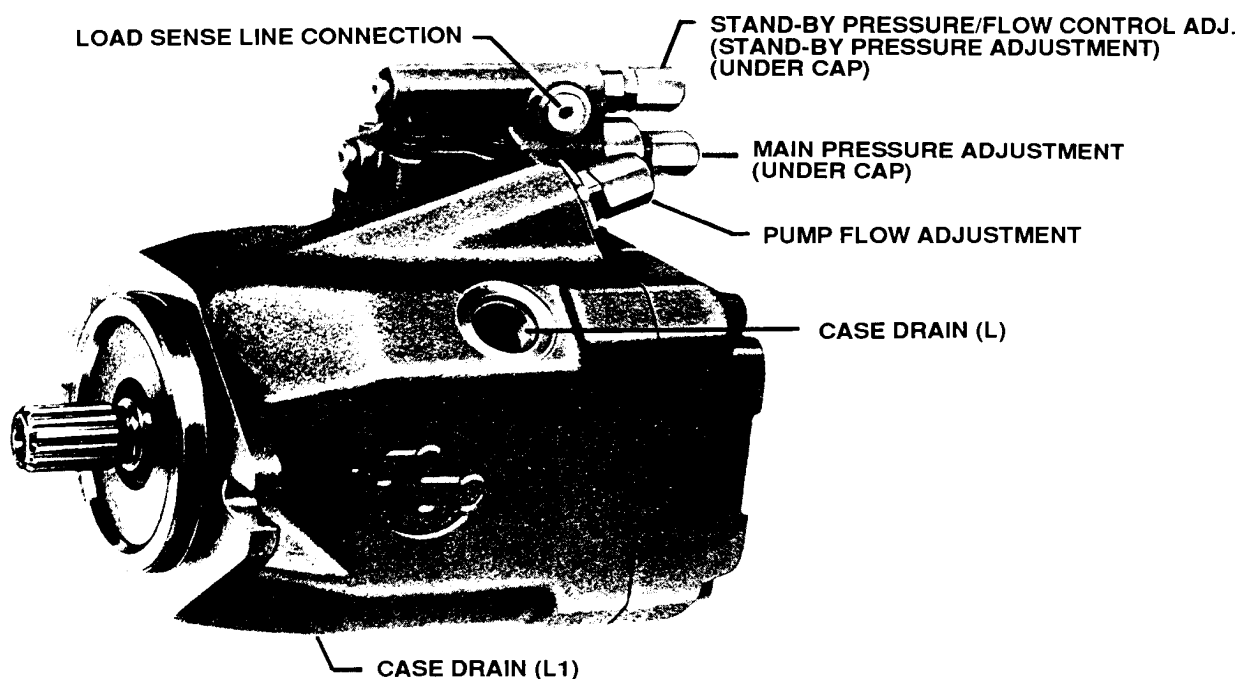

FIGURE 2. PORTS AND ADJUSTMENTS
A. Install pump on vehicle so that one of the case drain ports "L" or "L1" is on top. See Figure 2.
E. Connect the load sense line. See Figure 2.
A. Remove the cap over the main pressure adjustment. See Figure 2.
B. Loosen the lock nut and turn the socket head set screw counter-clockwise to reduce the maximum pressure to its minimum. (Pumps are normally shipped with this pressure adjustment set to its minimum but should be checked.) See Figure 2.
C. Remove the cap over the stand-by pressure/flow control adjustment - smaller of the two caps located above the main pressure adjustment. See Figure 2.
C. Adjust to maximum pressure. With all valves of the valvebank in neutral and the pump dead headed, slowly turn the main pressure adjustment clockwise to increase the pressure to the specified amount (check the pressure on the gauge while doing so) tighten the lock nut on the pressure adjusting screw and reinstall the cap. See Figure 2.
- C. To adjust maximum pump pressure, hold valve shifted and read maximum pump pressure. To increase the pressure, turn the maximum pressure adjustment clockwise. To decrease, turn it counter-clockwise. See Figure 2.
- D. To adjust the stand-by pressure, return all valves to neutral and read the pressure gauge. To increase or decrease this pressure, turn the stand-by pressure/flow control clockwise (to increase) or counter-clockwise (to decrease). See Figure 2.